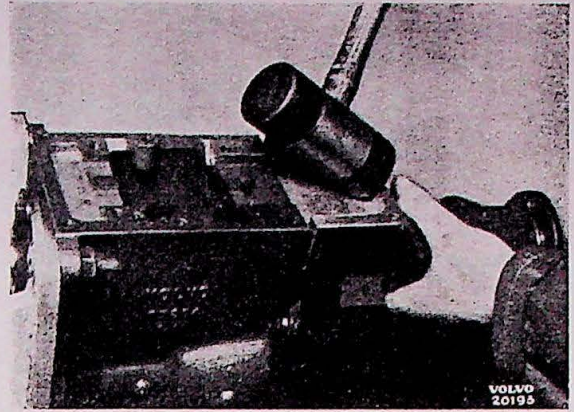

Fig. 7.
3. Lift up gearshift rail (9), (2nd and reverse speeds). The other gearshift rail will then come out too. Remove ball.
4. Remove the four screws holding the rear housing and loosen same together with main shaft eventually by means of a rubber headed hammer, fig. 7. Lift out the front synchronizing cone, which is by now loose.
5. Remove snap ring (8) by means of special pliers and withdraw main shaft. 2nd speed gear synchronizing device and the sliding gear for 1st and reverse speeds can then be removed.